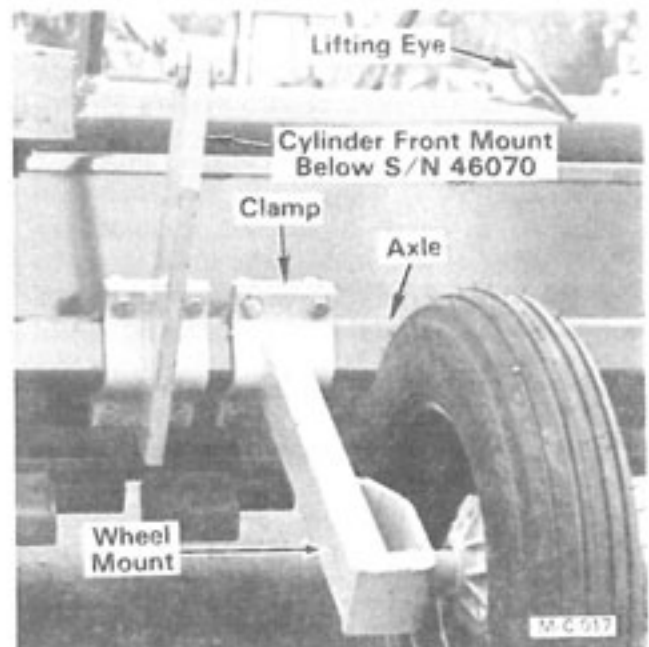

Figure 4
3. Install the wheel mounts and wheels on the axle at the desired spacing, see Figure 4 and note. Secure each wheel mount clamp with four $\frac{3}{4}$ "-10 x $2\frac{1}{2}$ " (Grade 5) hex-head capscrews, lockwashers and nuts.